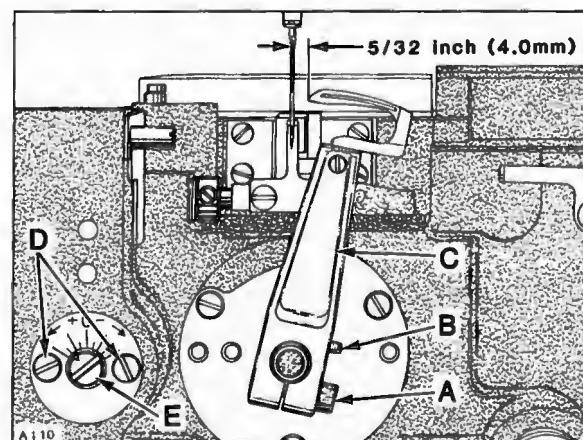

Fig. 7
Insert a new needle, type and size specified. With looper positioned at EXTREME right end of travel, distance from centerline of needle to point of looper should be 5/32 inch (4.0mm). Adjustment can be made by loosening screw (A, Fig. 7) and turn screw (B) clockwise to increase looper gauge or counterclockwise to decrease. Apply pressure to the upper portion of looper holder (C) to the left while making this adjustment and locking with screw (A). Looper gauge No. 21225-5/32 can be used advantageously while making this adjustment. Looper must also be set so, as it travels to the left behind the needle, NOT to touch, but with a MAXIMUM clearance of .005 inch (.127mm). Adjustment can be made by loosening screw (A) and moving looper holder (C) forward or rearward on its shaft to obtain specified conditions; apply pressure to the upper portion of looper holder to the left while tightening screw (A).
Machine is equipped with a quick adjustable looper avoid mechanism to accomodate extreme differences in needle sizes. If looper avoid requires re-setting, loosen two screws (D, Fig. 7) and turn eccentric stud (E) towards the plus side (counterclockwise) for MORE looper avoid or towards the minus side (clockwise) for LESS looper avoid. When desired setting is acquired, tighten screws (D).